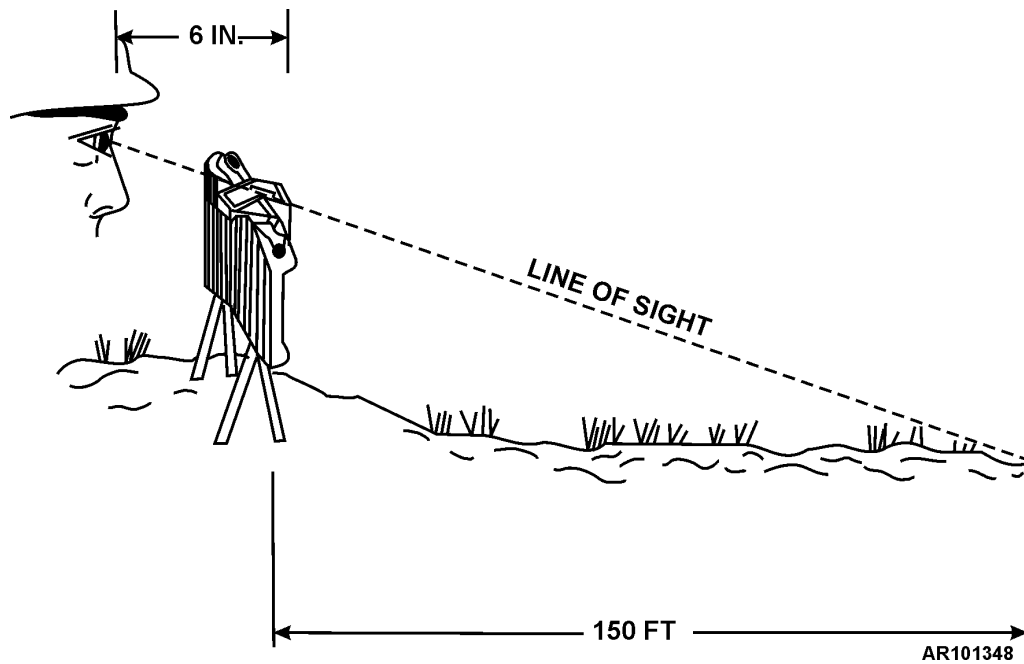

Figure 2-10. Aiming antipersonnel mine M18A1 with electric initiation system (equipped with knife-edge sight).
- (2) *Mines with knife-edge sight (fig. 2-10):*